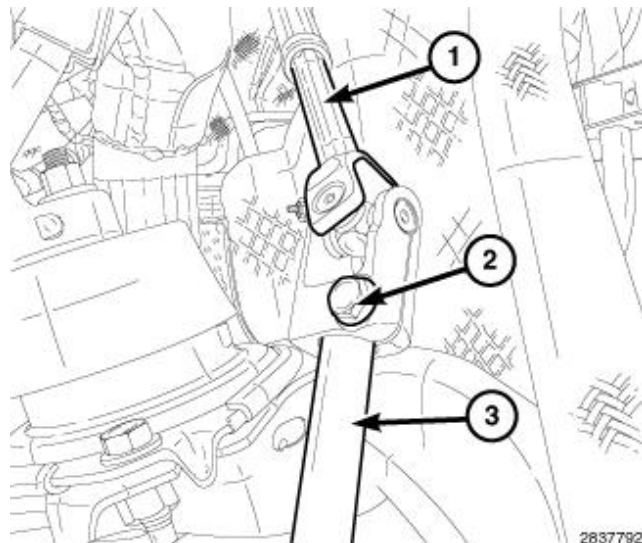

Figure 14 – Steering Shaft Pinch Bolt
33. Remove the intermediate steering shaft pinch bolt (2) and separate it (Figure 14).